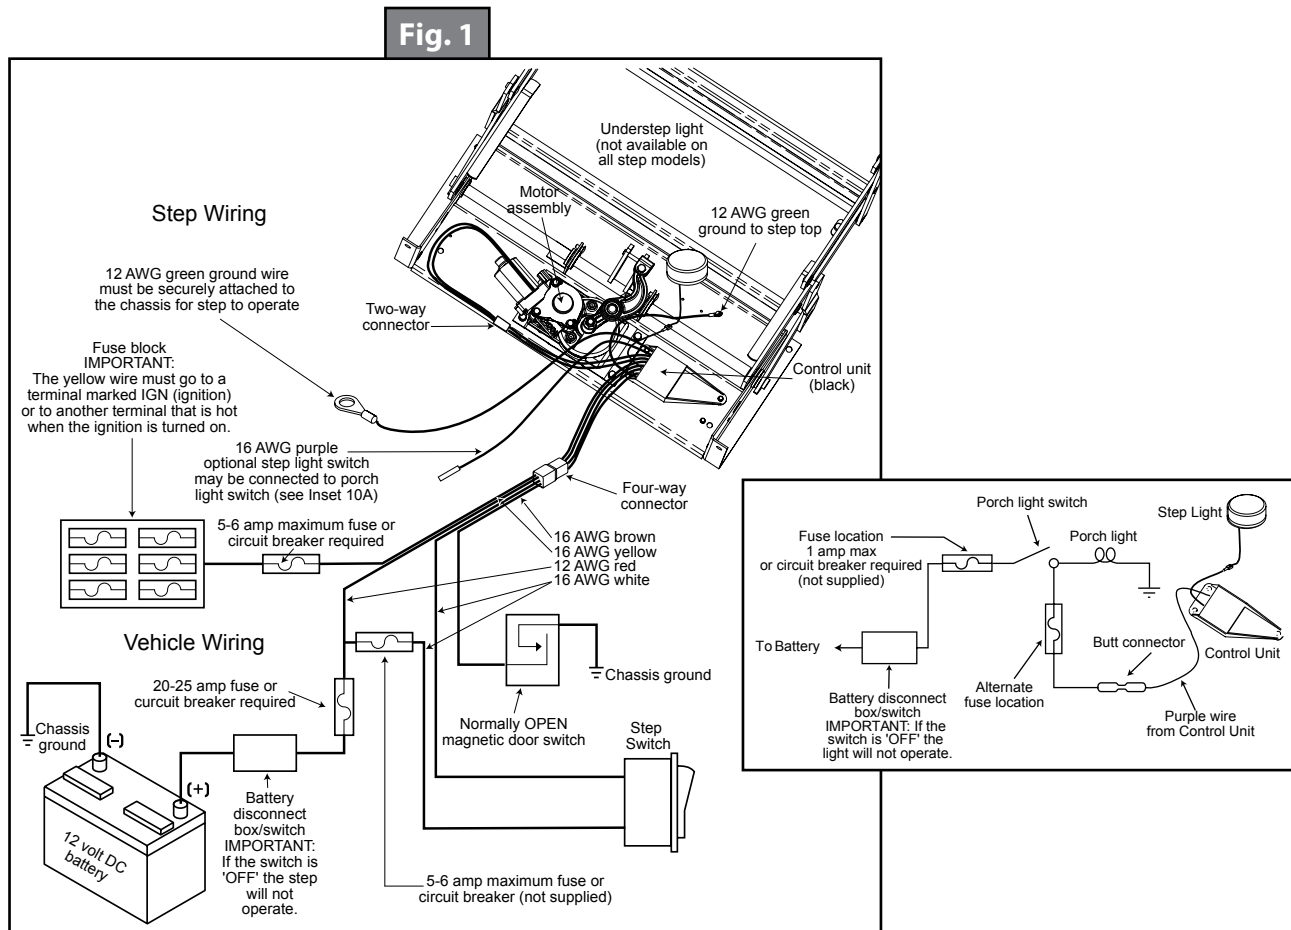

Fig. 2
3. Disconnect the 4-way connector on the underside of the step and connect the step-half of the connector with the 4-way connector pigtail (Fig. 1, Fig. 2 and Fig. 3).